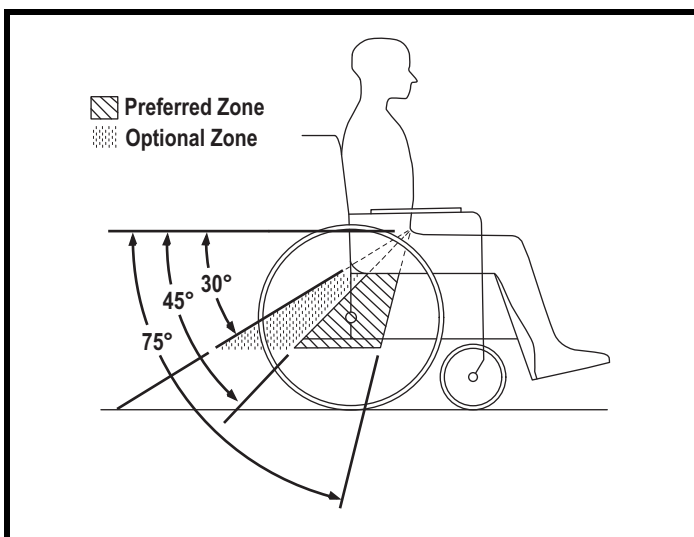

Figure 18. The Kids UP Preferred Pelvic Belt Angle
- Preferred pelvic belt angle-range. **See figure 18.**